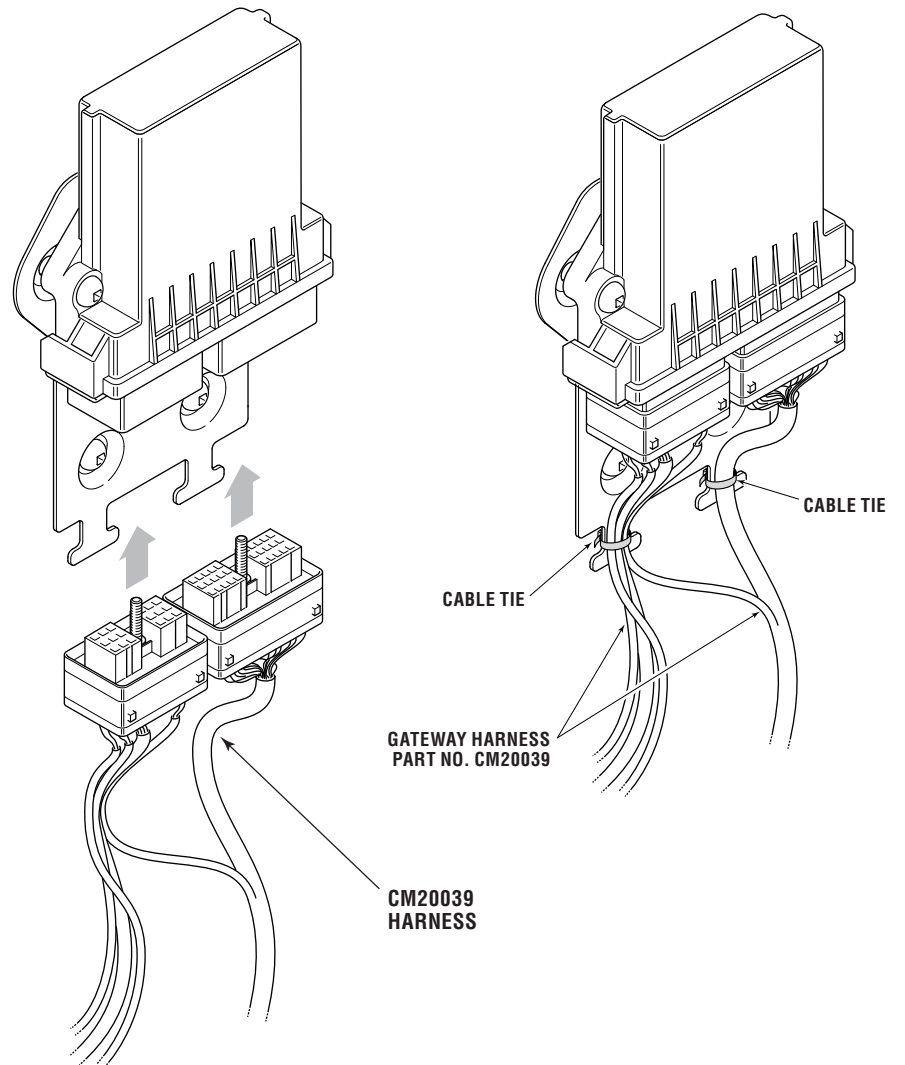

Figure 9-5. Harness connection to EST gateway.
Use cable ties to secure the harness cables to the strain relief plate as shown in figure 9-5.
2. At the main station CANtrak, navigate to **Dealer Menu > Initial Setup > EST Gateway** to bring up the EST Gateway Setup screen. If you have two gateways, and have correctly set the number of gateways in section 4, then you will also see a 2nd station gateway on your screen. Use cable ties to secure the harness cables to the strain relief plate as shown in figure 9-5.